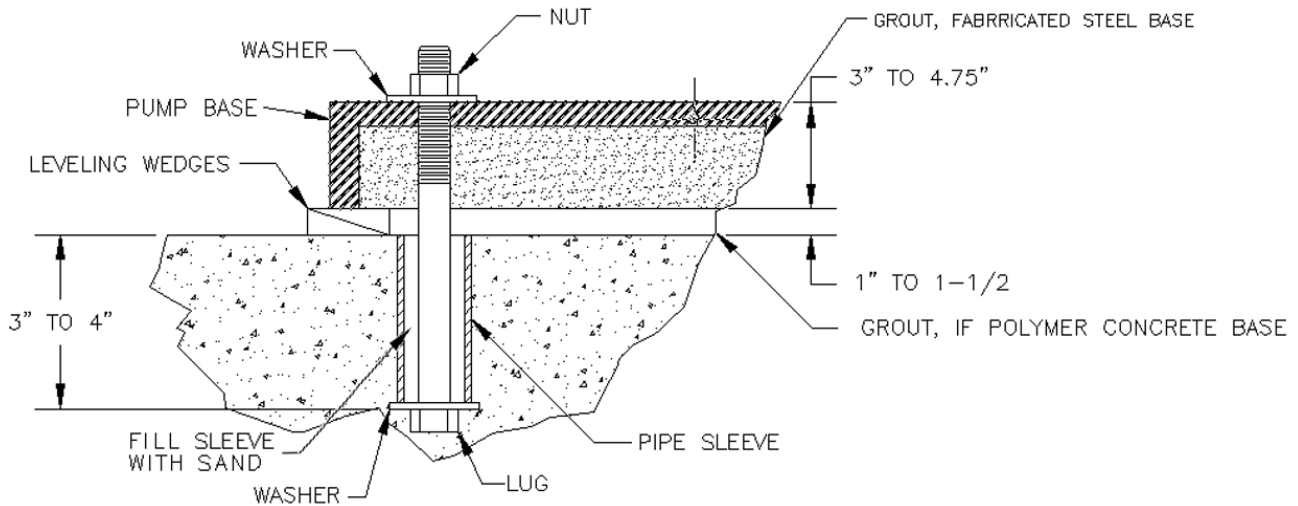

Figure 6-1: Anchor Bolt configuration
6. Correct pump rotation as desired, see Figure 6-1 on page 10.